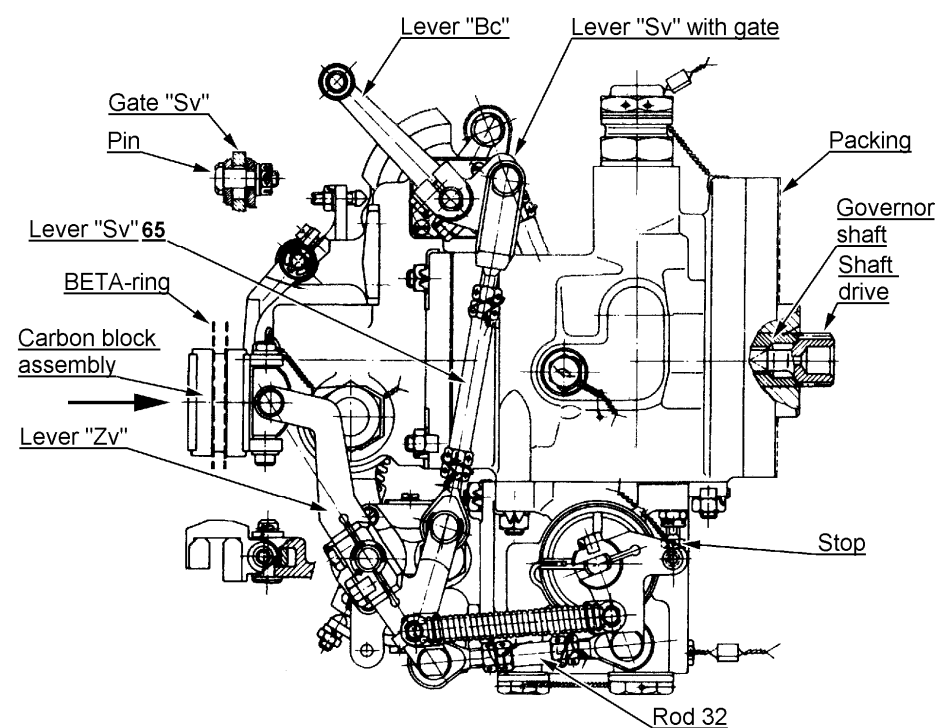

Figure 11-4 Governor LUN7815.02 View from engine
BE CAREFUL AT SECURING ELEMENT 32 (FIGURES 11-4 AND 11-5, LOCKING WIRE AND COTTER PIN). LEFT THREAD IS MARKED WITH "L". THE STOP – FIGURE 11-4 – MUST HAVE THE SAFETY WIRE ACROSS THE HEXAGON HEAD OF THE BOLT. STOP MUST NOT BE RELEASED AND RE-ADJUSTED, IT IS ADJUSTED BY GOVERNOR MANUFACTURER.
- (6) Remove cotter pin, nut and remove pin from rod "Sv" [65]. Then place the rod out from slotted piece "Sv" - see figure 11-4.
(11) Verify function of the microswitch "V" (figure 11-3) by moving lever "Zv" in the direction of arrow (figure 11-4).
(12) Grease bearings of elements 29, 32 and 65, and other appropriate surfaces with Aeroshell Grease 5, 6 or 22.
- (14) Verify governor flange and gear box flange. Both surfaces must be clean and free from any damage. Use a clean cloth eventually with cleaning solvent to wipe seating faces.
- (15) Insert drive rod into the governor shaft with square inward (figure 11-4). Try to turn with drive rod. The rod should rotate freely.